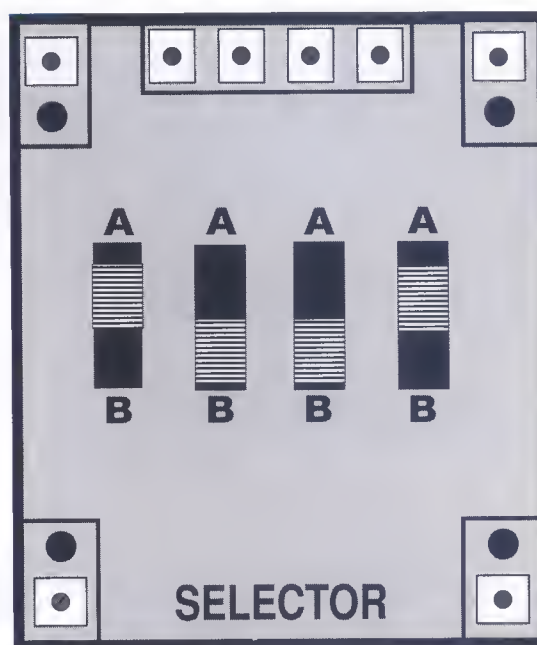

Fig. 2-5
c) **#215 - The Atlas Selector** is a device that enables the use of two Power Packs (cabs) and Blocks (sections of electrically isolated track), so two trains may be operated and controlled at the same time. Each selector has four sliding buttons which determine the routing of current. Fig. 2-5 depicts a selector.